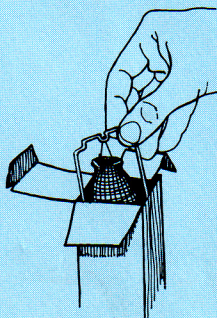
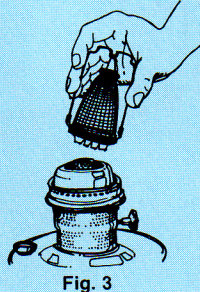

Fig. 2
Fig. 3
4. Remove LOX-ON® mantle from box by handling the wire frame. (Fig. 2) Do not touch mantle fabric. Fit mantle to burner gallery—the upper detachable part of the burner which also holds the chimney when assembled. (Fig. 3) Lock mantle into place by turning it clockwise.